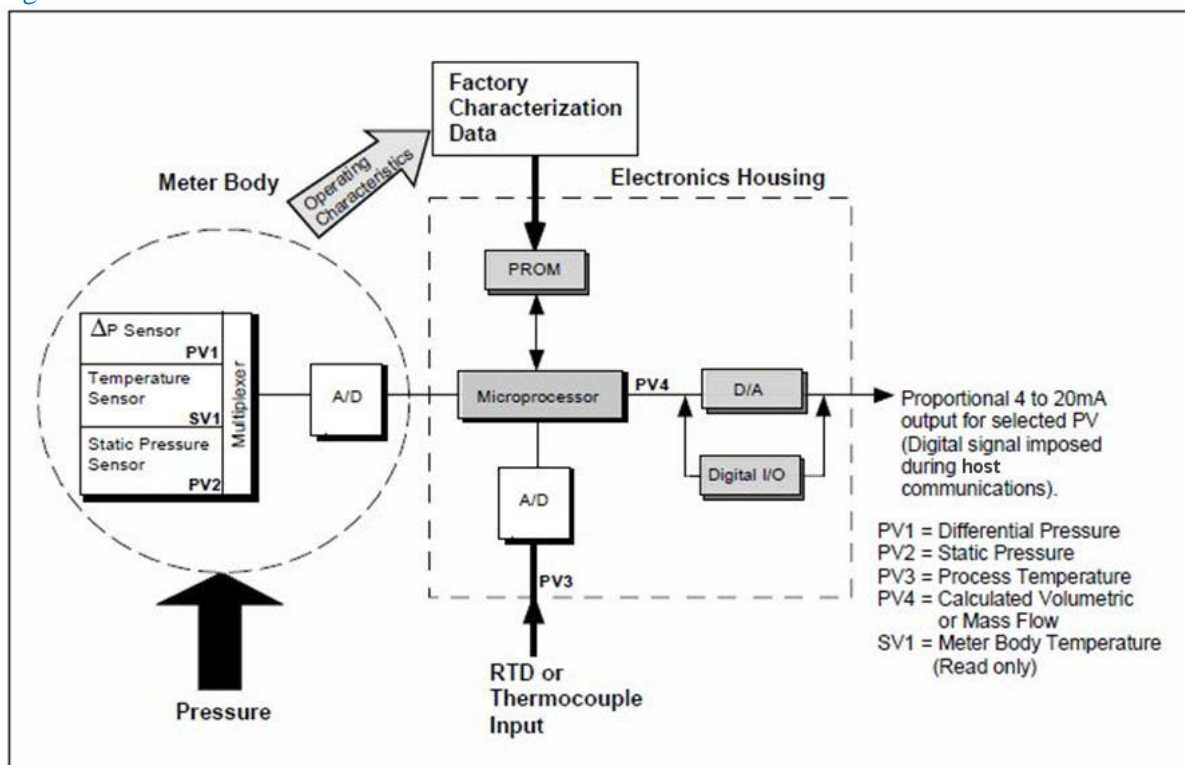

Figure 4 – DE Communication through SCT
Note that the secondary variable is only available as a read only parameter through the SCT shown in Figure 4.
In the digital DE protocol format, all four process variables are available for monitoring and control purposes; and the meter body temperature is also available as a secondary variable for monitoring purposes only - See Figure 4
Much of the operation in the Digitally Enhanced (DE) mode is similar to that of analog operation. The essential characteristics of DE transmitter are shown in Figure 4.